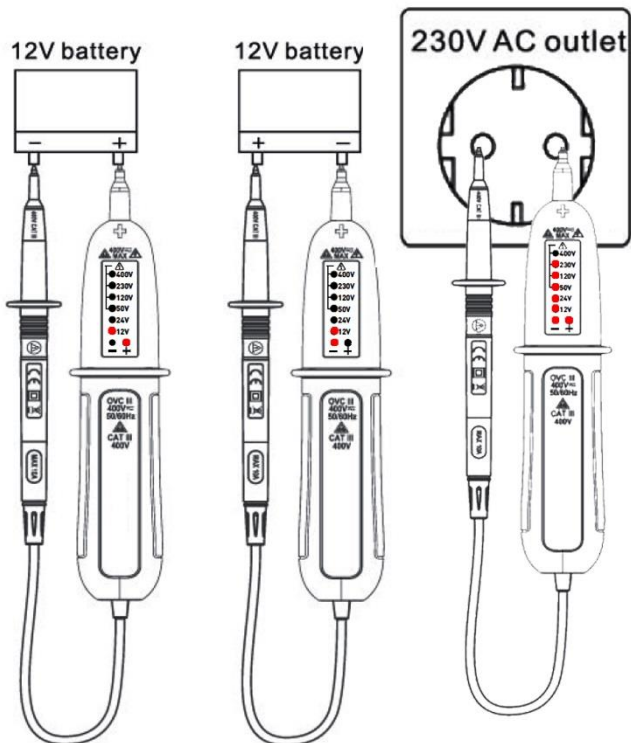

Fig. 1
- Test the device with a 12 V battery and the +/- indicator with the 12 V LED should light up as shown in Fig. 1.
- Measure a known voltage, e.g. a 230 V socket (see Fig. 1), if the tester fails the voltage test.